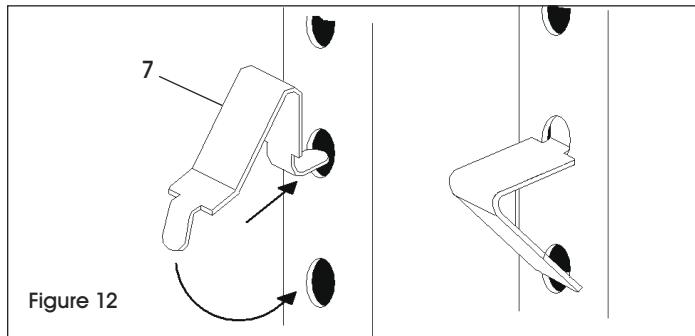

Figure 12
1. At the desired shelf height, insert 2 shelf clips (7) into the holes located inside the front edges of the side panels. (See Figure 12)